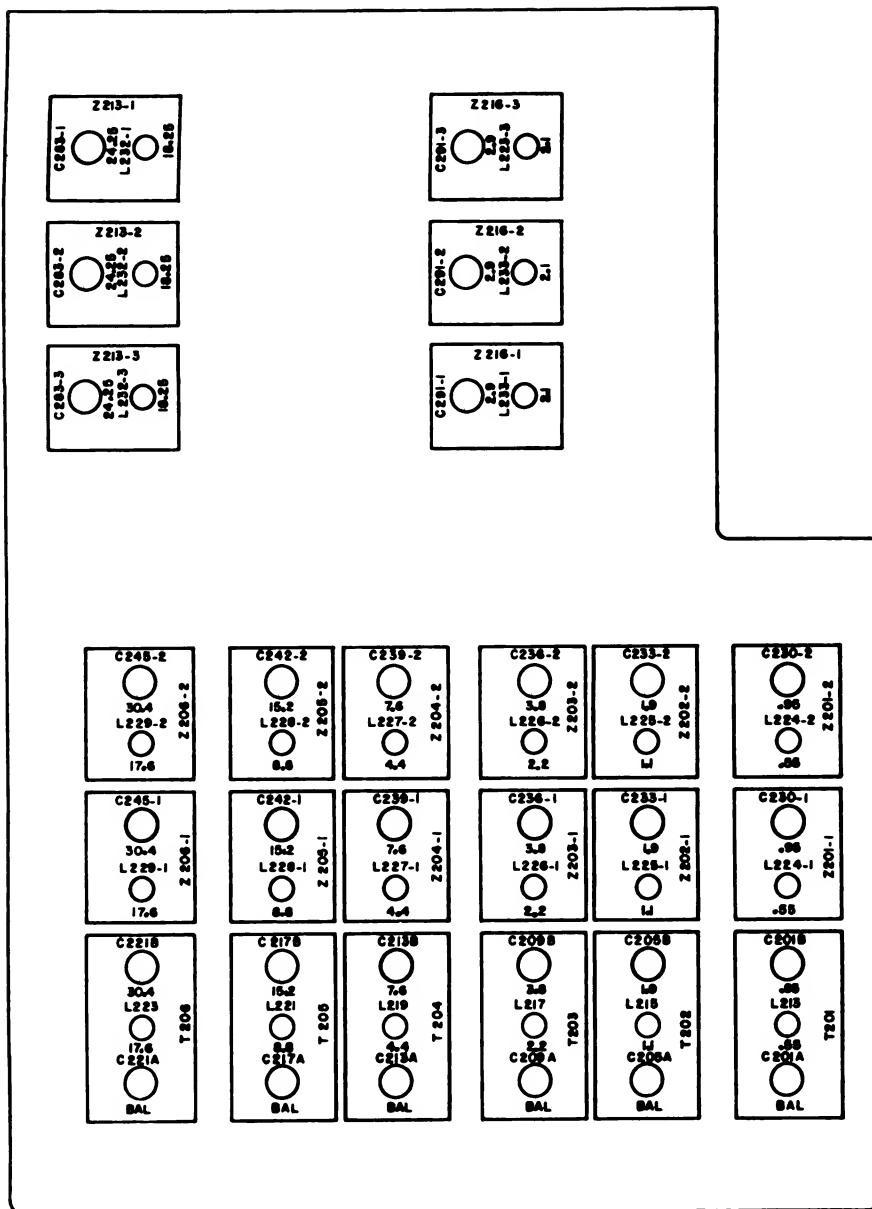

Figure 72. Rf and variable if. alignment points.
75. Second Variable If. Alignment (fig. 72)
Remove the top protective cover, located over the alignment points, from the rf subchassis, a copy of figure 72 is located on this cover. Use this illustration to locate alignment points.
- (1) Set the receiver frequency-indicator at 01 900.
- (2) Tune the AN/URM-25(*) to 2.1 mc.
- (3) Adjust the slugs in Z216-1, Z216-2, and Z216-3 (L233-1 through L233-3) for a maximum TS-505(*)/U indication.
- (4) Set the receiver frequency-indicator at 01 100.
- (5) Tune the AN/URM-25(*) to 2.9 mc.
- (6) Adjust the trimmer capacitors in Z216-1, Z216-2, and Z216-3 (C291-1 through C291-3) for a maximum TS-505(*)/U indication.
- (7) Repeat the procedures given in (1) through (6) above until no further increase in TS-505(*)/U indication is obtainable.
76. First Variable If. Alignment (fig. 72)